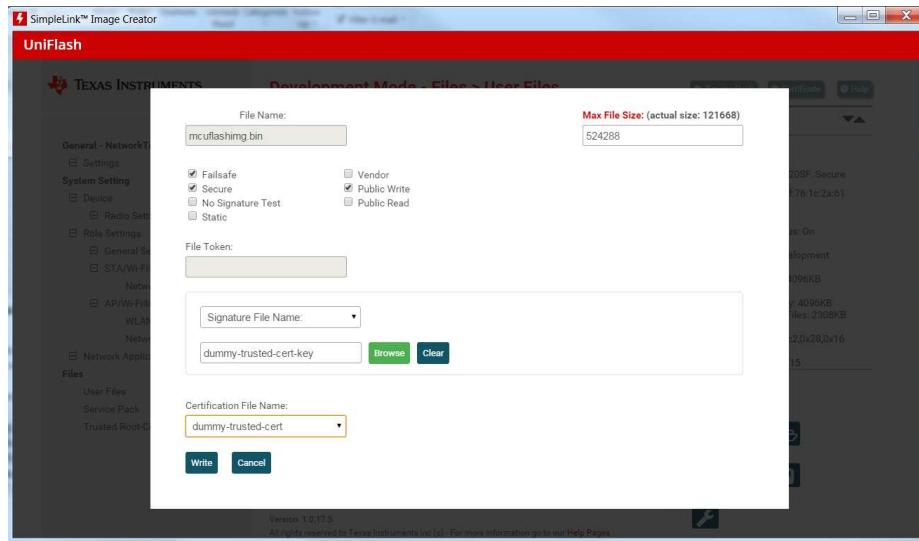

Figure 3-14. Select Certificate File Name
- Select Private Key File Name from the drop-down menu and browse the dummy-trusted-cert-key file available at <sdk-installation>\tools\lcc32xx_tools\certificate-playground. Select the available Certificate File Name from the drop-down menu, as shown in Figure 3-14, and click Write.